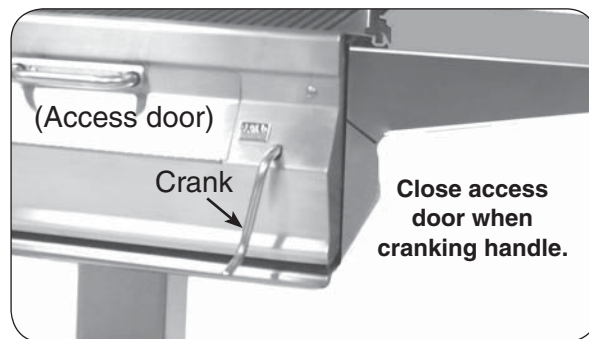

Fig. 4-1 Install crank
1. Locate the crank handle (Fig. 4-1) packed inside the grill enclosure.